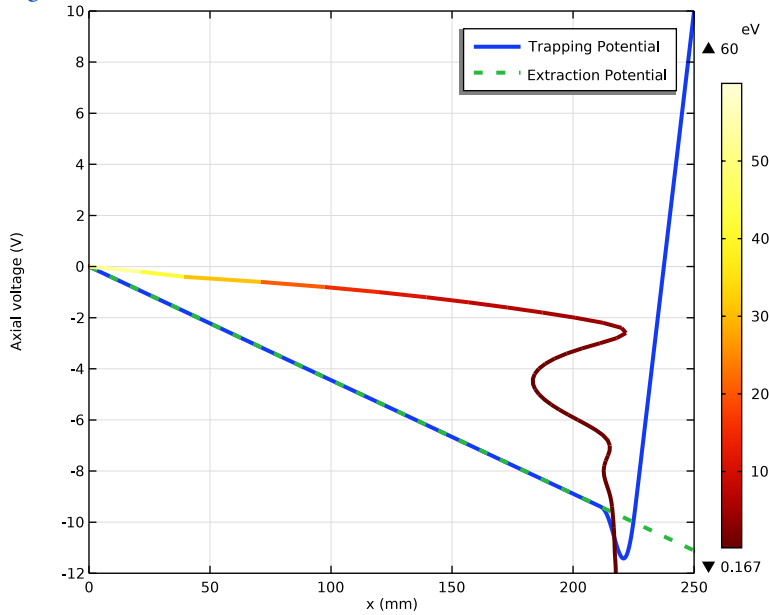

Figure 2: Trapping and extraction configuration of the axial DC potentials. The unlabeled line represents the beam trajectory as it is cooled and trapped.
continuous ion beam can be converted to a pulsed beam. The two potentials are shown in Figure 2.
As the beam cools and encounters the potential barrier, it is repulsed and thus the beam oscillates axially and asymptotically settles near the potential minima (Ref. 1). This is schematically shown in Figure 2 where the unlabeled line represents the beam's average axial position (x-axis) as a function of time (y-axis). The time is scaled so that the plot superimposes onto the trapping potential. This line is colored by its average kinetic energy.
- 4 Select the **y-axis label** checkbox. In the associated text field, type `Axial voltage (V)`.
- 6 In the **Axial DC voltages** toolbar, click  **Plot**. The trapping and extraction potentials should resemble Figure 2.